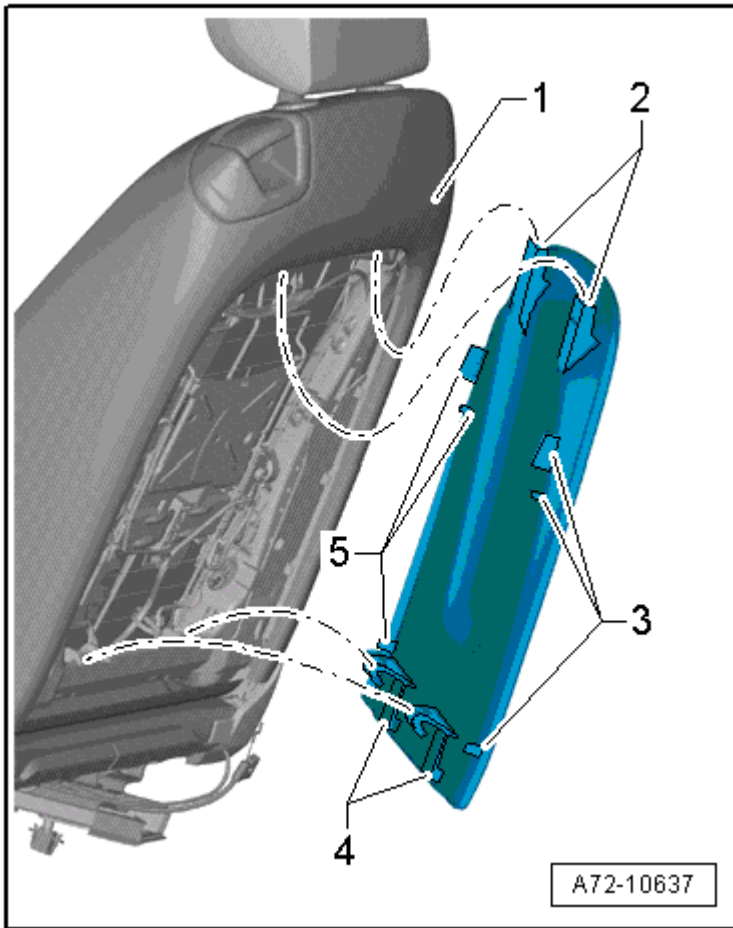

Fig. 20: Identifying Backrest Cover Mounting Points
- Mounting points overview, refer to **Fig. 20**